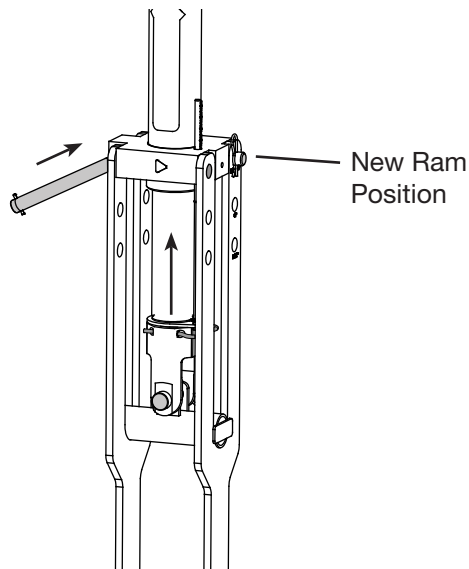

Figure 11
8. Pin the ram in new position. (Fig. 11)